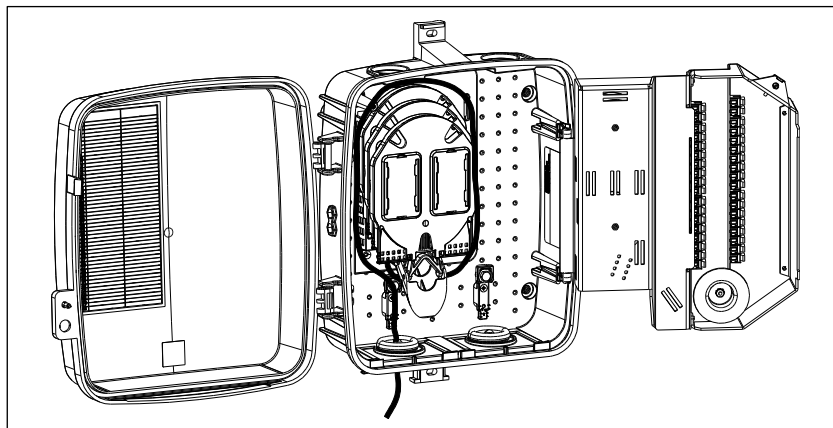

Figure 7 Route Feed Buffer Tube to Tray
4. Route buffer tubing around the fiber basket, using Velcro to secure the buffer tube to the cable tie points (Figure 7).